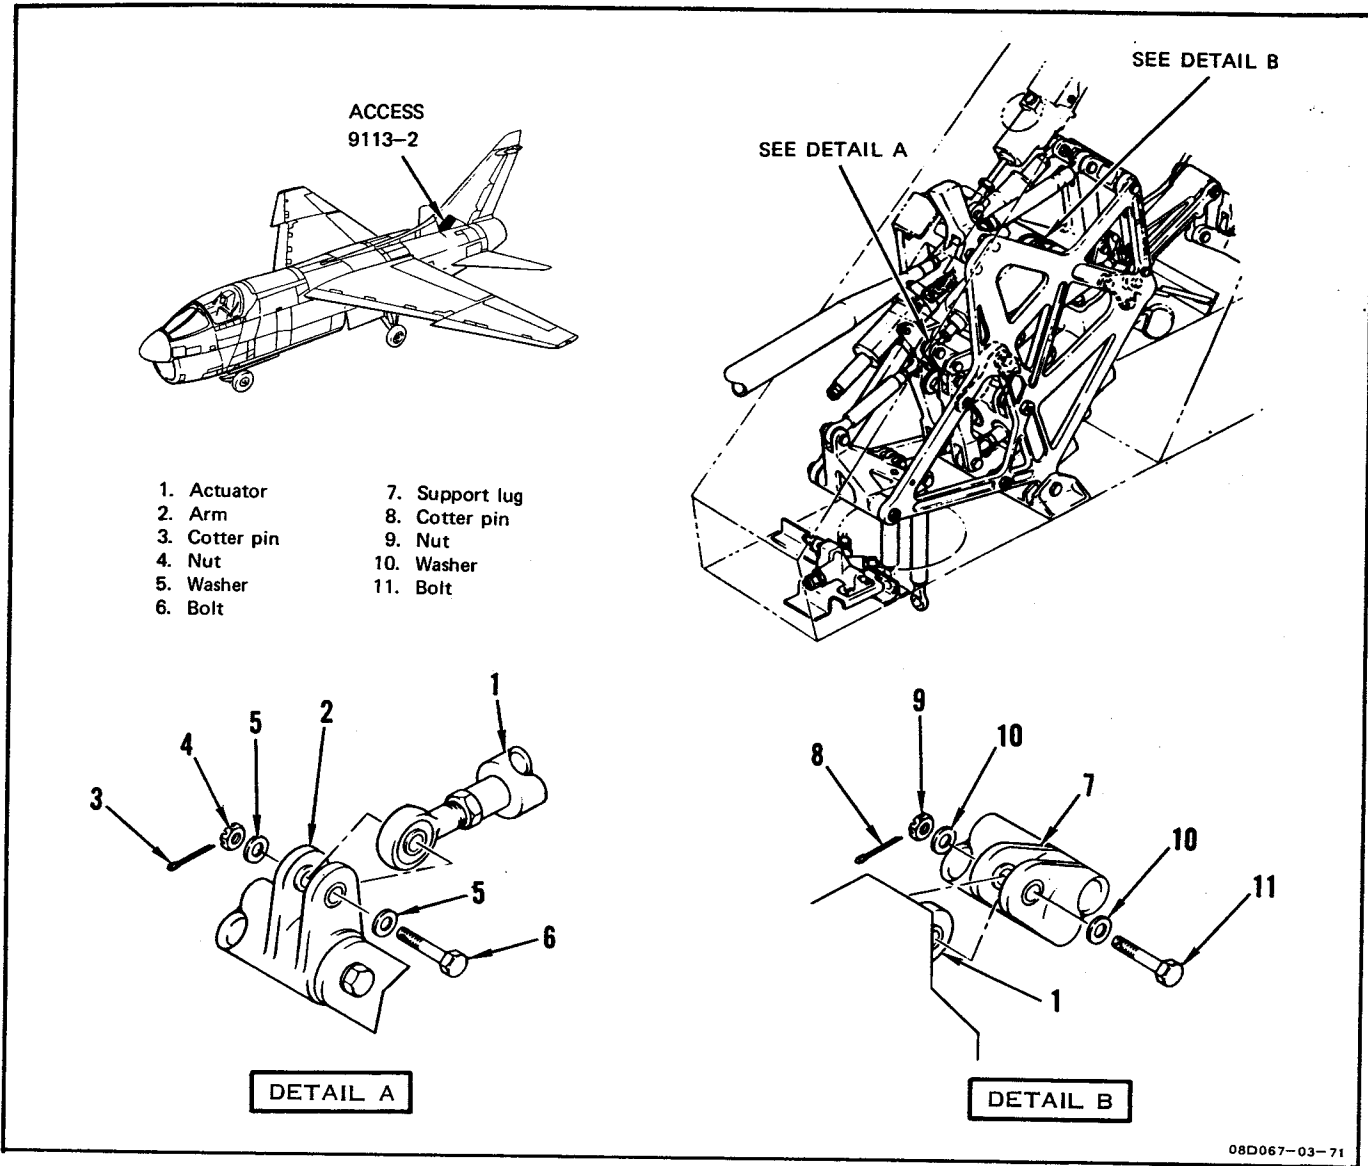

Figure 7-4. Pitch Trim Actuator Removal and Installation
**7-21. REMOVAL. (See figure 7-4.)**
- c. Disconnect rod end of actuator (1) from arm (2) by removing cotter pin (3), nut (4), washers (5), and bolt (6).
- d. Disconnect actuator from support lug (7) by removing cotter pin (8), nut (9), washers (10), and bolt (11).
**7-22. INSTALLATION. (See figure 7-4.)**